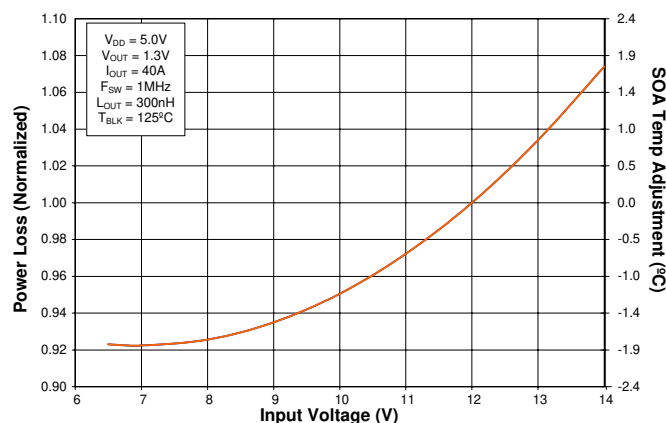

Figure 3 Normalized Power Loss vs. Input Voltage
| (Figure 3) | Normalized power loss for input voltage $\approx 0.95$    |
- (Figure 3) SOA temperature adjustment for input voltage  $\approx -1.2^{\circ}\text{C}$